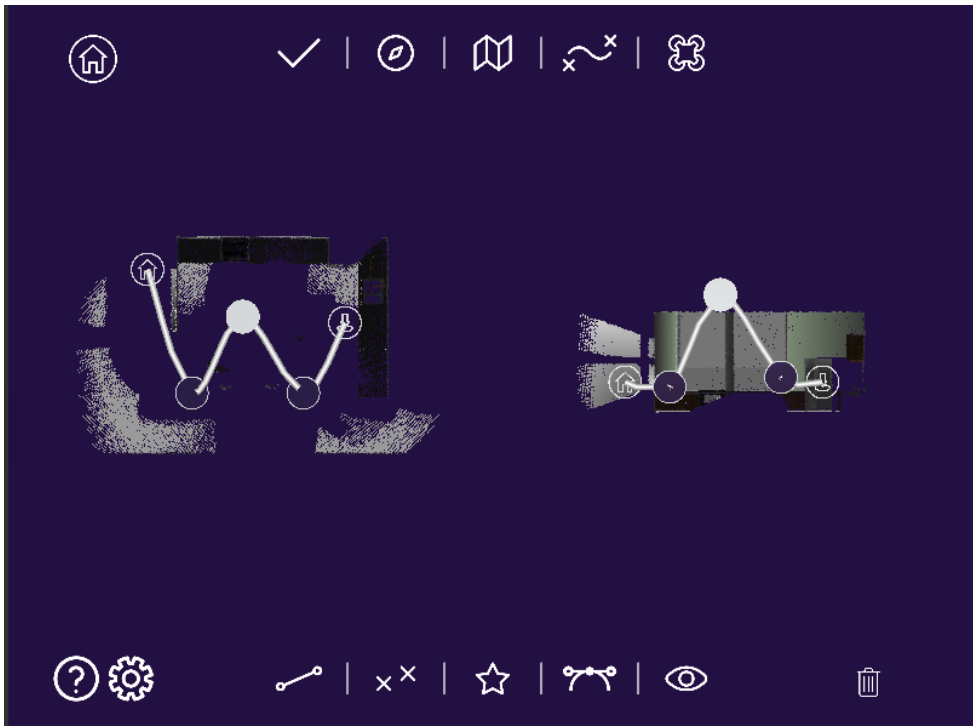

Figure 32. A key point is selected and dragged to another position
3. The user can alternate between Top and Side views (see Figure 32).